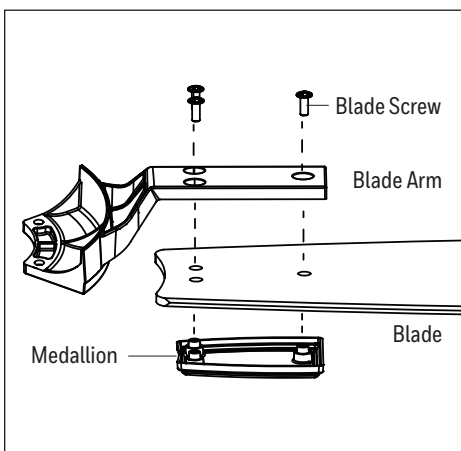

Figure 5.4
- Partially insert three blade screws through the blade arm, blade, and into the medallion. Tighten each blade screw starting with the one in the middle. Repeat this step for the remaining blades (Figure 5.4).